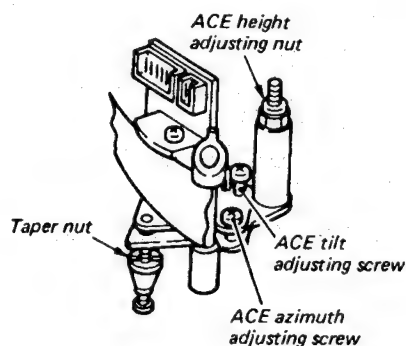

Fig. 1-4-6 ACE head assembly
1. If tape wrinkle is observed at the lower flange of No. 8 guide, adjust the ACE tilt adjusting screw counterclockwise as shown in Fig. 1-4-6 until the wrinkle disappears.
2. Adjust the ACE azimuth adjusting screw for maximum audio output as shown in Fig. 1-4-6.